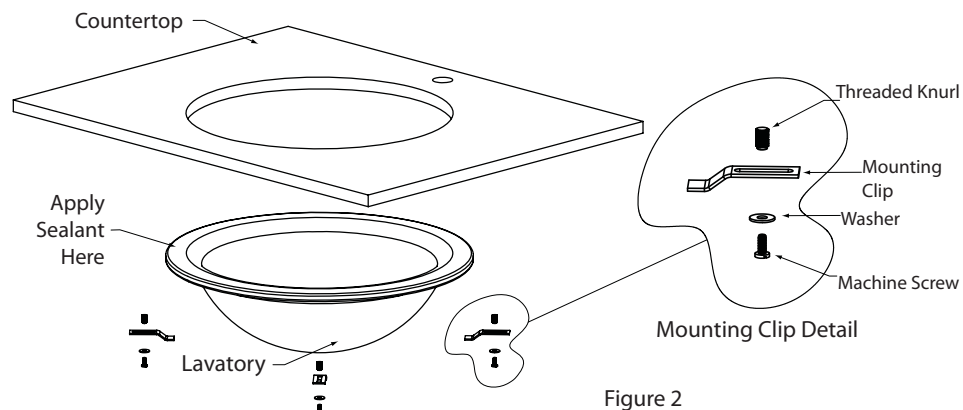

Figure 2
- o Refer to Mounting Clips Detail (Figure 2). [Installation for solid surface countertops with a minimum thickness of 1" (25 mm). Installer must supply anchors for thinner countertops.]
- o For solid surface, drill anchors hole  $\frac{3}{8}$ " diameter x  $\frac{1}{2}$ " deep. Apply small amount of epoxy (not provided) to closed end of Threaded Knurl (C). Insert threaded knurl (threaded open end exposed).
- o Attach Undermount Clips (B) to hold lavatory in place.